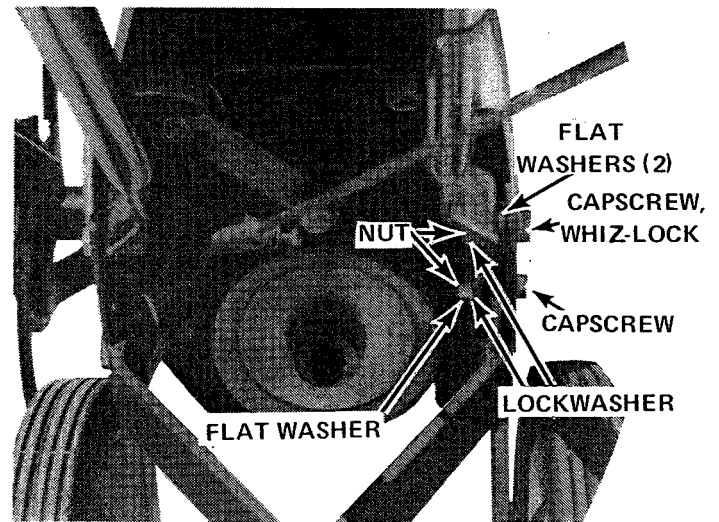

Figure 3.
3. See Figure 3. Assemble left and right handles to frame as shown. Note locations of flat washers.